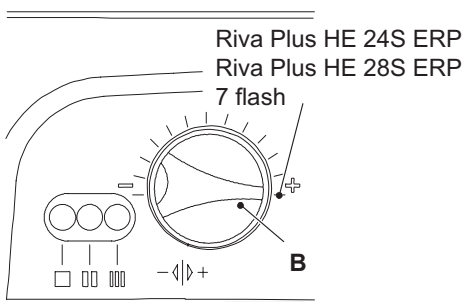

Figure 8.10
At this step it is possible to visualize the current setting by keeping the reset button D pressed for more than 5 seconds. The lamps F will flash a number of times corresponding to the setting Figure 8.10 (seven times for Riva Plus HE 24S ERP, Riva Plus HE 28S ERP).
- 12 To change the setting turn the knob B on a position corresponding to the boiler model (Figure 8.10).